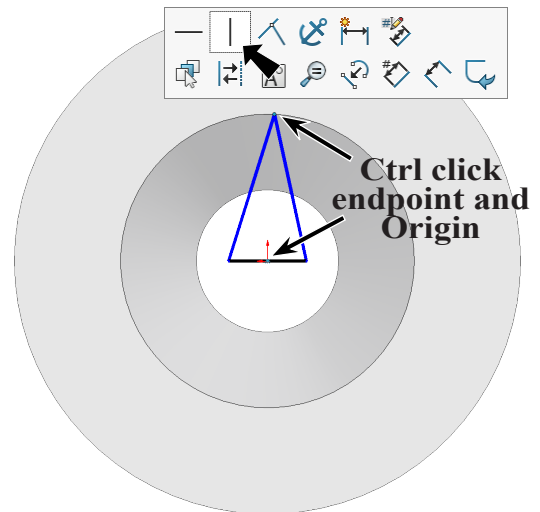

Fig. 11
Step 8. **Ctrl click top endpoint of line and Origin** to select both. Release Ctrl key and click **Make Vertical** on the context toolbar, **Fig. 11.**